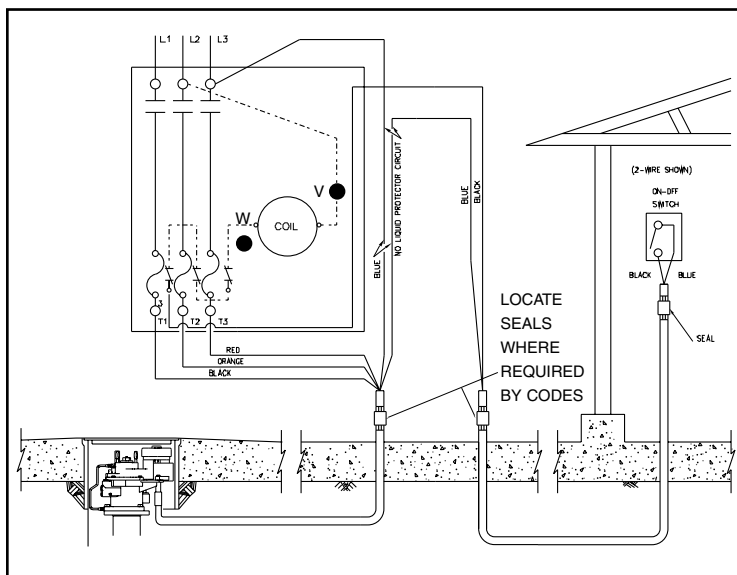

FIGURE 6
b. Using properly color coded wires, connect a black wire from terminal T1 in the magnetic starter to the black motor lead, in the junction box of the proper submerged pump. Connect an orange wire from starter terminal T2 to the orange motor lead and red wire from terminal T3 to the red motor lead. (See Fig. 6 through 9.)
e. Installations using mechanical dispensers must be connected for 2-wire control as shown on Fig. 6 and 7. Connect a black wire from the other side of the “on-off” switch to terminal 3 in the magnetic starter.